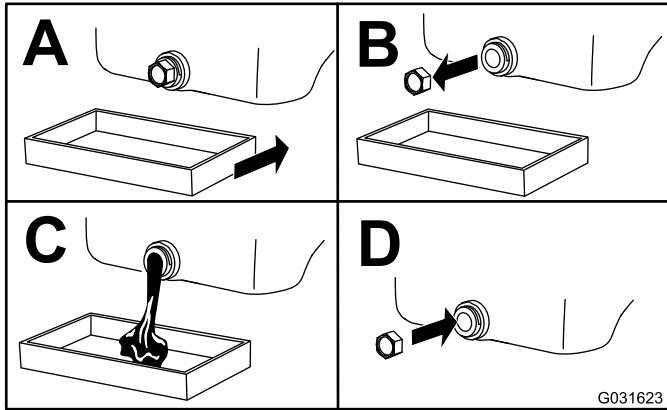

Figure 25
4. Change the oil as shown in Figure 25.